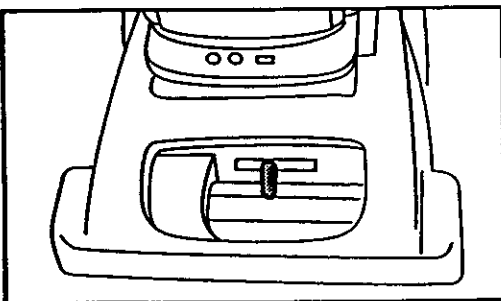

Fig. 6
**Nozzle height** is adjusted on the front of the unit and ranges from high, for very deep pile carpet, to bare floor on the lowest setting **Figure 6**.